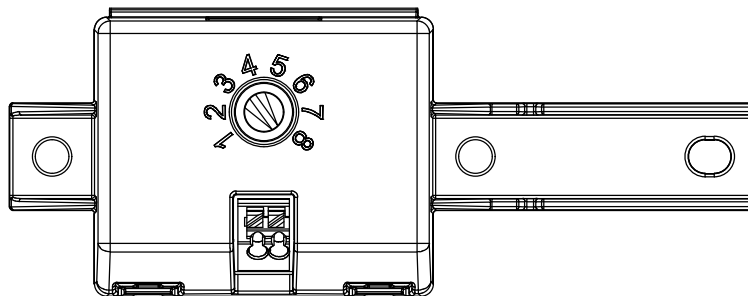

FIGURE 7
2. ESTABLISH THE DESIRED POWER OR LUMEN SETTING BY TURNING THE SWITCH TO THE POSITION DEFINED BY THE POWER LEVEL INCLUDED WITH THE DESIGN PACKAGE. REFER TO THE MANUFACTURER SPECIFICATIONS AND THE FIELD ADJUSTABLE SETTINGS TABLES INCLUDED WITHIN THIS STANDARD FOR EACH FIXTURE. SEE FIGURE 7 FOR ADJUSTMENT SWITCH DETAILS .